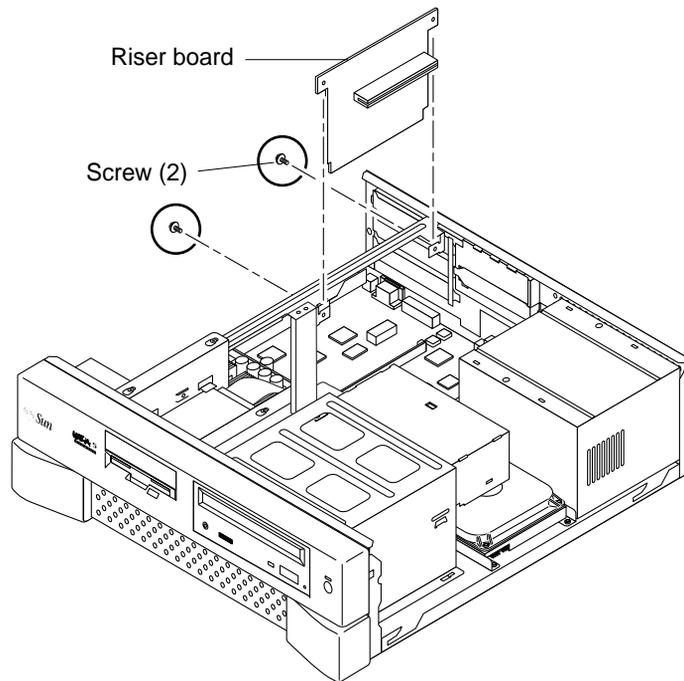
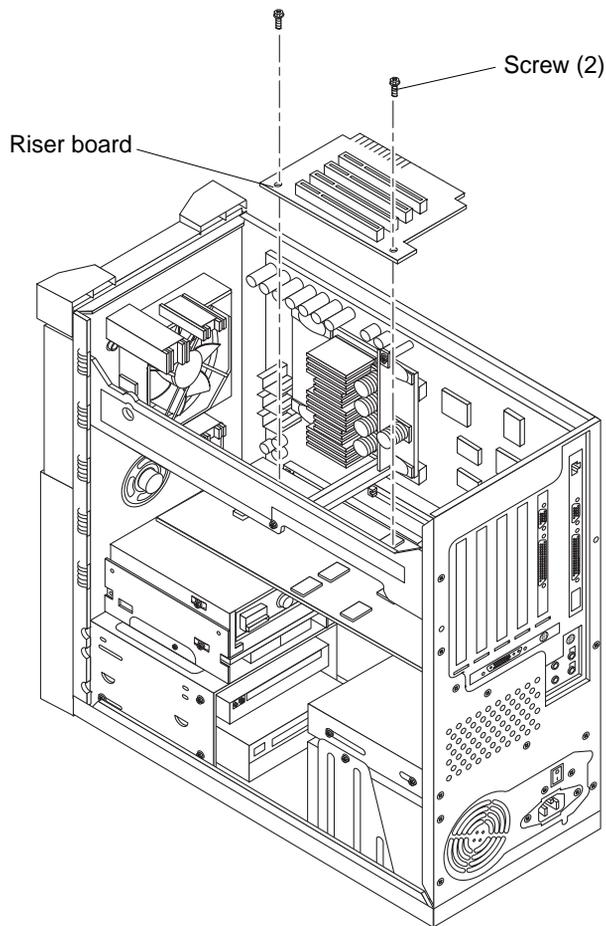

FIGURE 10-11 Removing and Replacing the Riser Board (Ultra 5)
FIGURE 10-12 Removing and Replacing the Riser Board (Ultra 10)
5. **Remove the riser board as follows (FIGURE 10-11 or FIGURE 10-12):**
1. **Replace the riser board as follows (FIGURE 10-11 or FIGURE 10-12):**